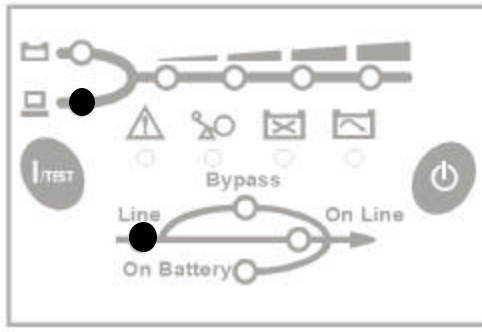

Fig. 2.5 Stand-by mode
2. Utilize the battery connection cable that came with the battery pack to connect the battery pack to the UPS as shown in fig. 2.5. The other connector of the battery pack can be used to connect a second, third etc. pack.
2. Turn on the input breaker (if the breaker can be turned on) on the rear panel of UPS. After that, the fan (in rear panel) will run and, as a front panel test, all LEDs will light up for about 2-3 seconds. The UPS starts up in 'STAND-BY' mode and the battery will be charged. See fig 2.5.
- 1 To switch off the UPS push the OFF-button (2) until a short beep is heard. Release the button after the beep. After a few seconds the UPS will be in 'STANDBY' mode: it will continue keeping the batteries charged. See also fig. 2.5.